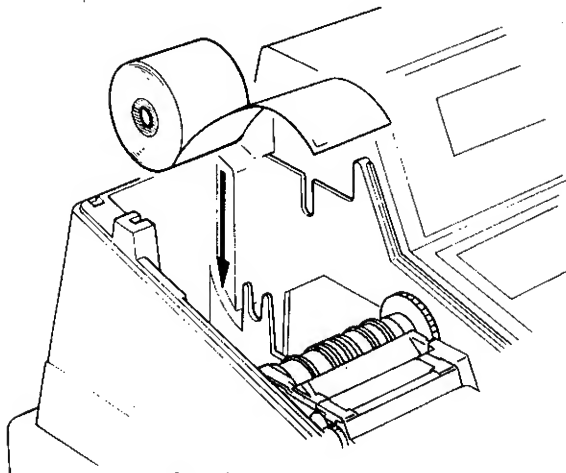

Fig. 2
2. Set the paper roll to the paper holder. (Fig.2)